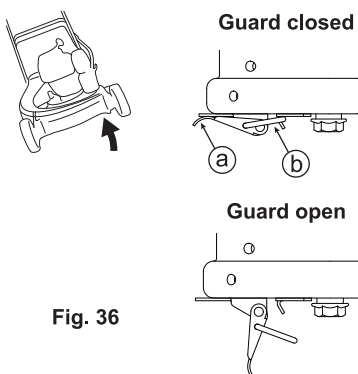

Fig. 36
9.8 Chain (See Figs. 36 and 37)